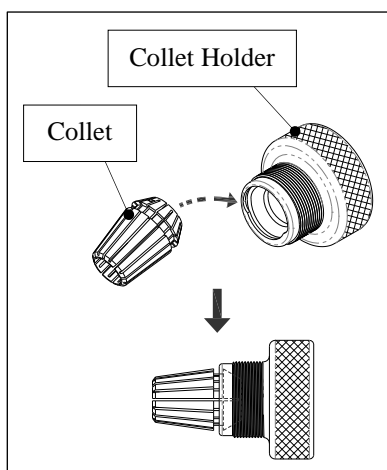

Fig. 11-1
2. Insert the collet into collet holder by 45°. (Fig. 11-1)